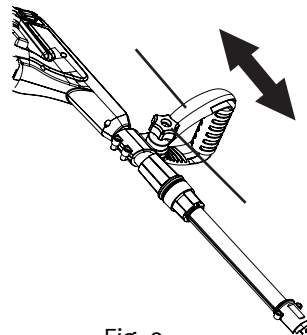

Fig. 9
2. Loosen the auxiliary handle by turning the handle knob counterclockwise. Rotate the auxiliary handle to a comfortable position (Fig. 9).